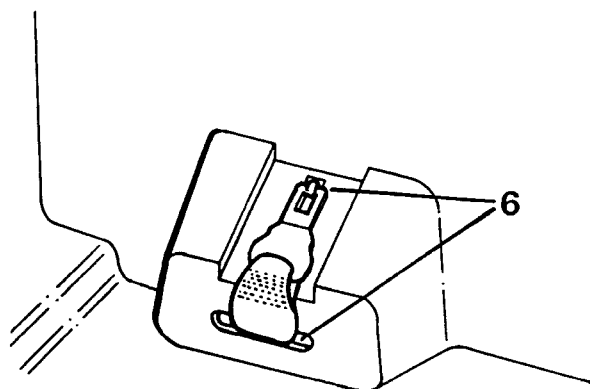

Figure 17
6. Unclip the buckle from the retaining clip and prise out the running escutcheon. See figure 17.